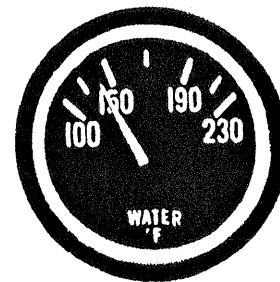

Fig. 3-7 Engine Coolant Temperature Gauge
7. Engine Coolant Temperature Gauge See Fig. 3-7